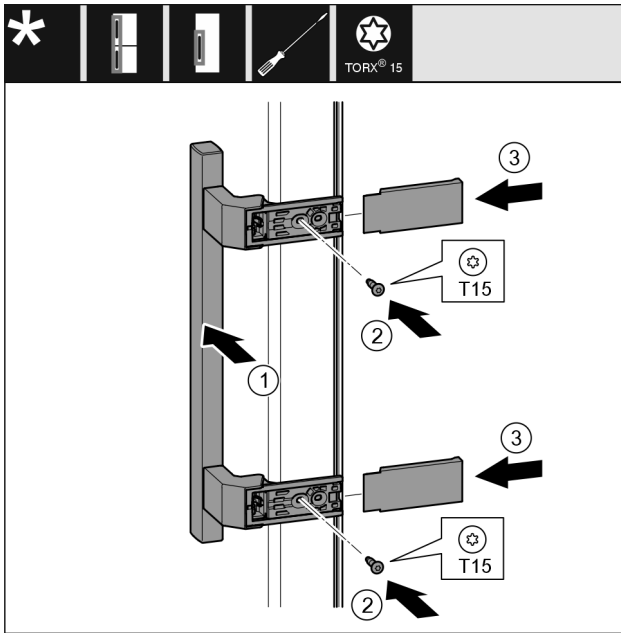

Fig. 43
- ▶ Attach the handle on Fig. 43 (1) the opposite side.
- ▶ Tighten the screws Fig. 43 (2) with the screwdriver.
- ▶ Attach the covers Fig. 43 (3) on the sides and slide them on.